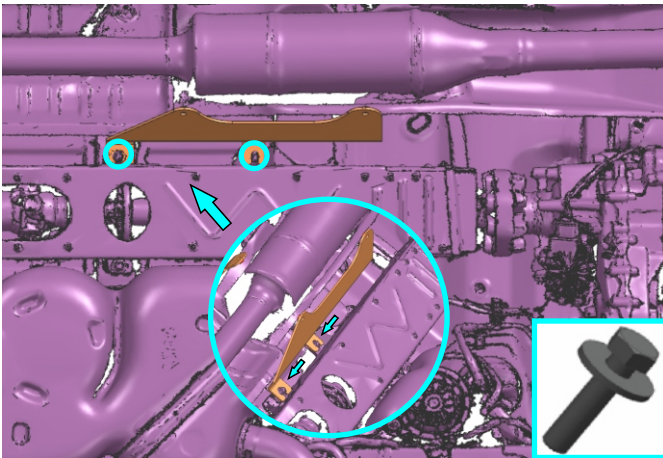

Fig. 3
3. Remove two factory bolts. Install left bracket (item 2) using factory bolts and washers M8 (item B) as shown in fig.3.